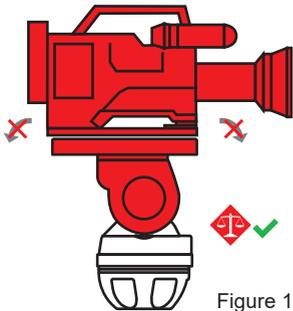

Figure 1
2. Hold the pan bar firmly, disengage the tilt brake. Observe how the payload moves and where it stops. If the platform stops in a horizontal position (camera pointing directly forward) or falls away evenly in either direction, the balance is correct. (Figure 1)
**NOTE:** When using Elite 25, there are two ways to move the sliding plate, one is by pressing and holding the release button and rapidly move the sliding plate forward or backward (Figure 2). Another is by turning the spindle to move the sliding plate forward or backward slowly, the purpose is to finely adjust balance of the camera (Figure 1). Secure sliding balance plate with clamping lever (spindle drive is self-locking, clamping serves to eliminate play).